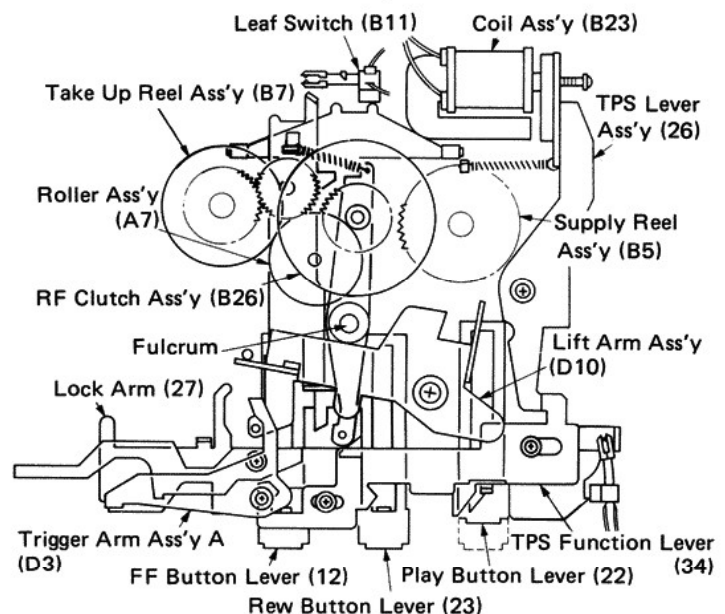

Fig. 27
Fig. 27 shows the status of the TPS-related mechanism in the PLAY mode. (Fig. 27)
When current does not flow into the coil assembly (B23) because of a no-signal section between tunes, the coil assembly (B23) releases the TPS lever assembly (26). Therefore the rewind button lever assembly (15) having been locked by the TPS function lever (34) is restored to the PLAY condition. (Fig. 27)